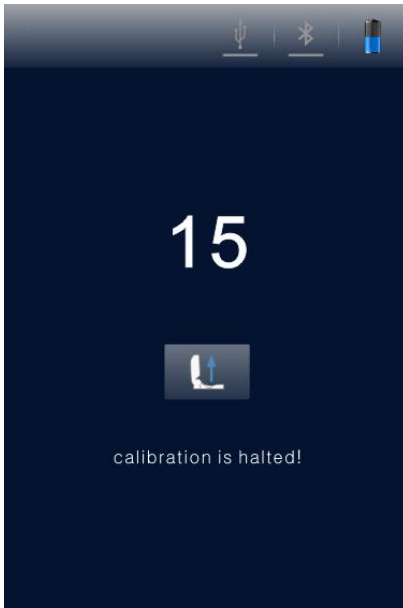

Fig 2.5-1
- b. If the  icon and < **Calibration is halted!** > are displayed on the screen of Biolum detector, as shown in figure 2.5-1. Please take out the ATP Quickswab from the Biolum detector to continue the calibration process.